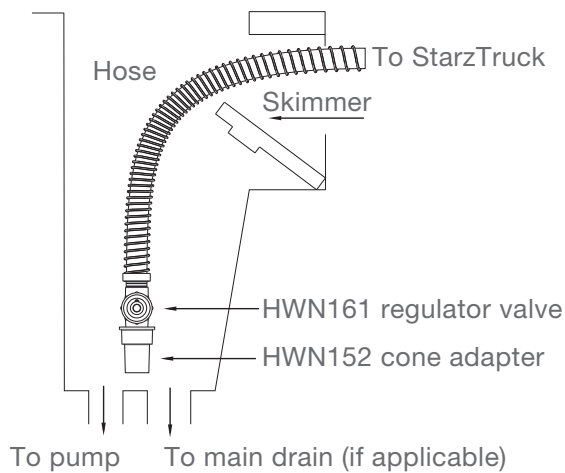

Fig. 4
- A. The suction port of the skimmer (see Fig. 4) or